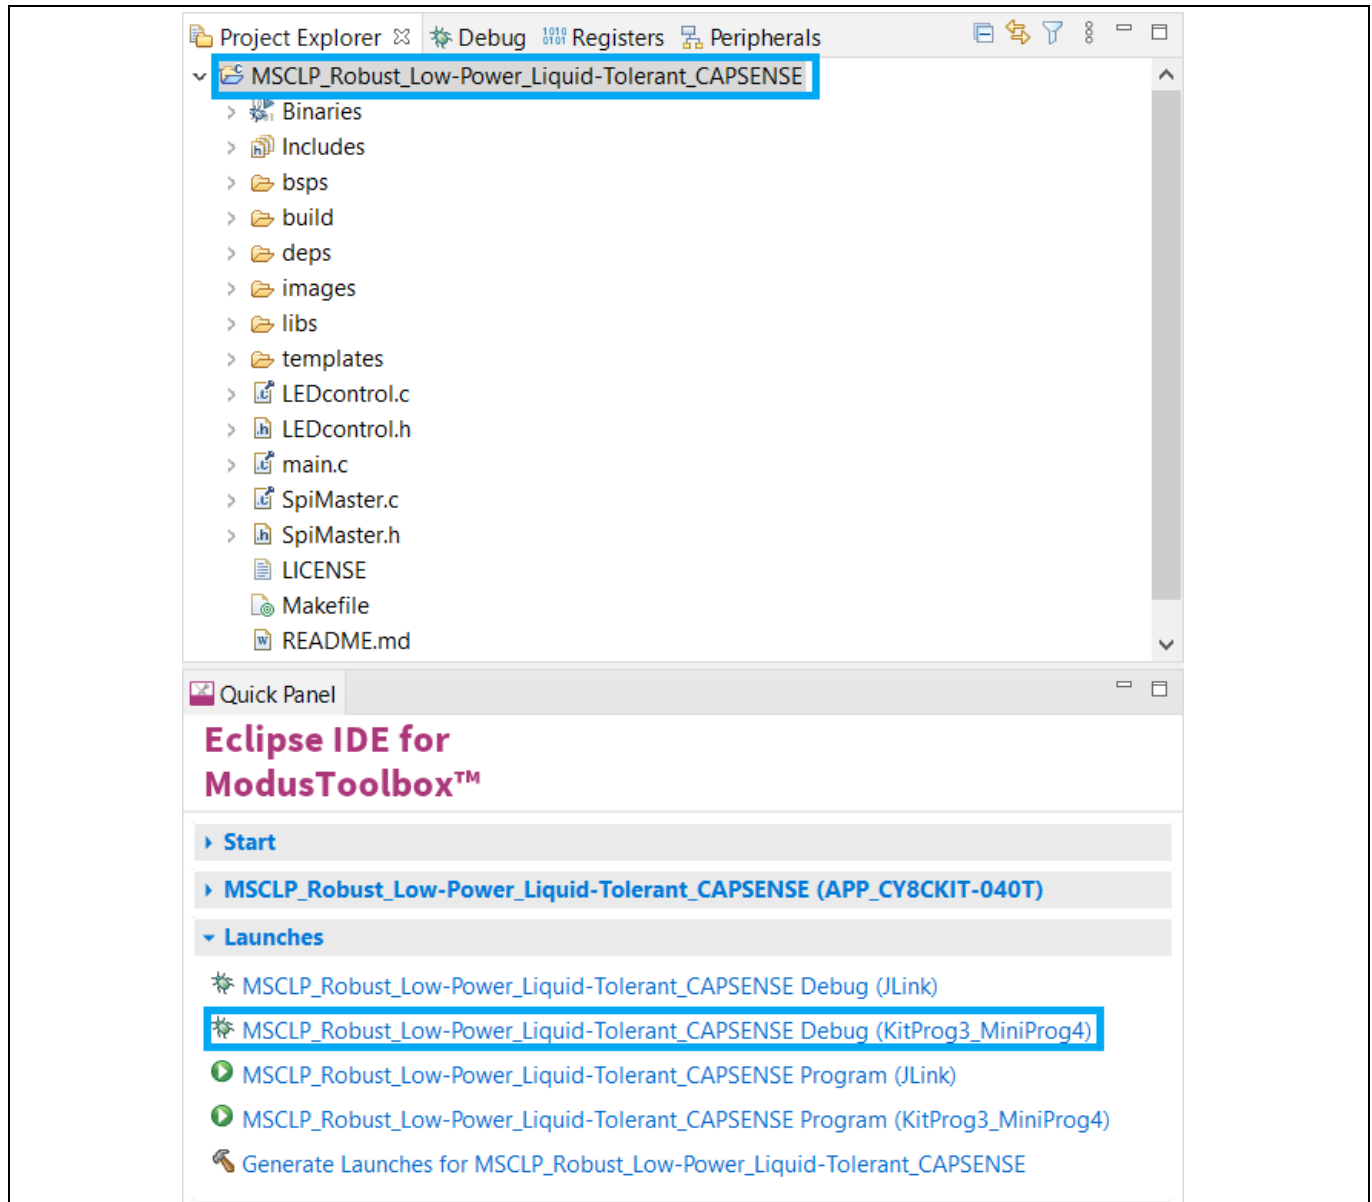

Figure 15 Debugging the code example
- ModusToolbox™ software has an integrated debugger. To debug a PSoC™ 4000T device application, in the **Project Explorer** tab, select **<App_Name>** project. In the **Quick Panel**, scroll to the **Launches** section, and click the **<App_Name> Debug (KitProg3_MiniProg4)** configuration, as shown in Figure 15. For a detailed explanation on how to debug using ModusToolbox™ software, see “Program and debug” section in Eclipse IDE for ModusToolbox™ user guide.